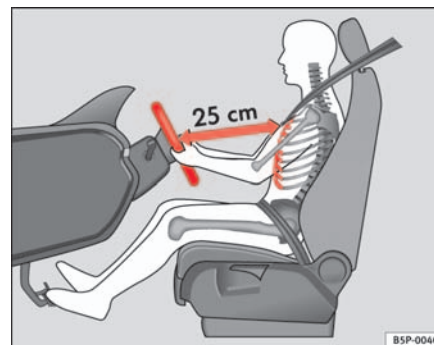

Fig. 129 Proper sitting position for driver
- Adjust the steering wheel in this way until the correct position is set $\Rightarrow$ fig. 129.
- Adjust the driver seat or steering wheel so that there is a distance of at least 25 cm between the steering wheel and your chest ⇒ page 159, fig. 129. If you fail to observe the minimum distance, the airbag will not protect you. Risk of fatal injury.